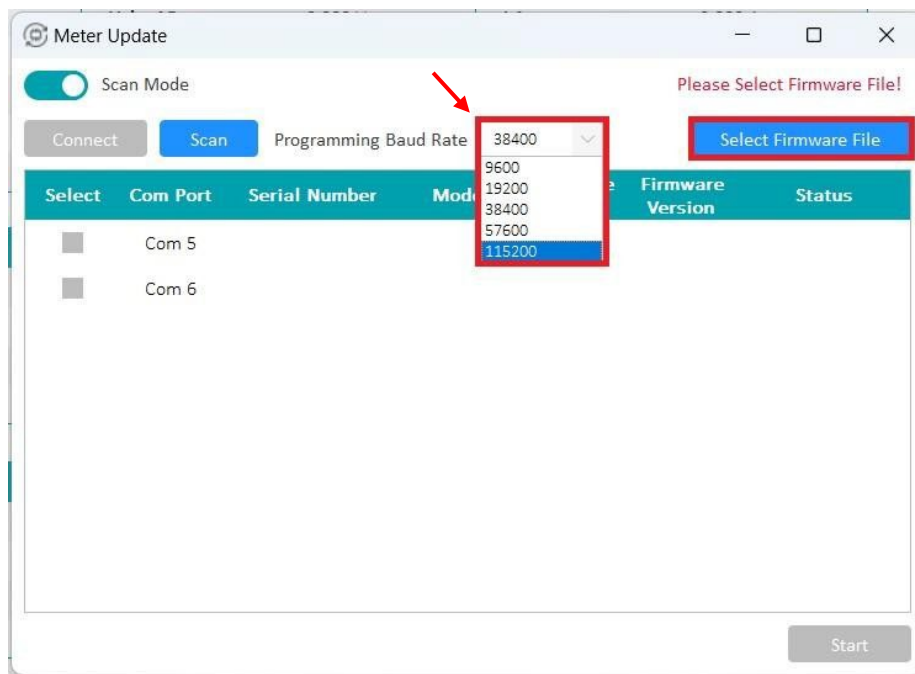
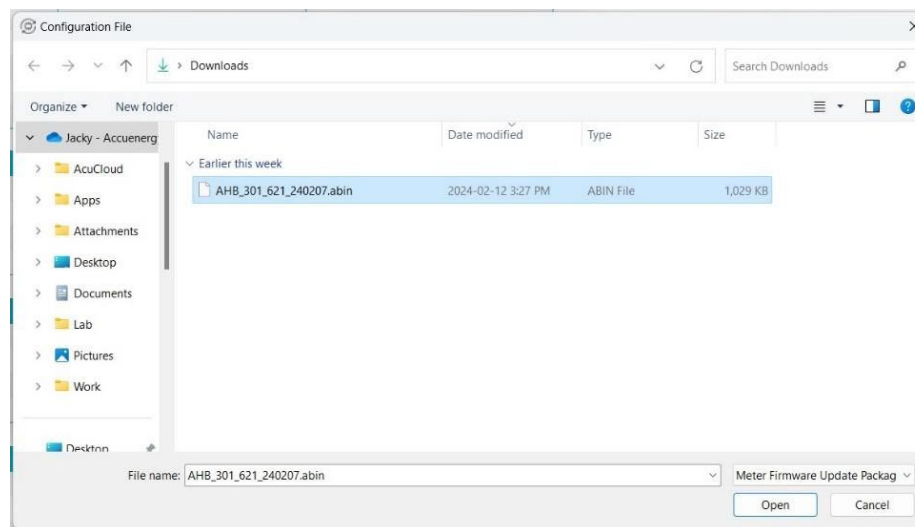

Figure 5
Figure 6
Step 5: select the “Baud Rate” as 115200 and click on Select Firmware File as shown in figure 5 below, the target file will load as shown in figure 6.